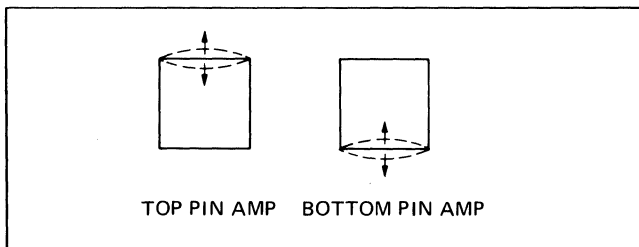

Fig. 2-8-5
- Adjust the lateral line horizontally with **TOP AMP** RV106 and **BOT AMP** RV104 as shown in Fig. 2-8-5.